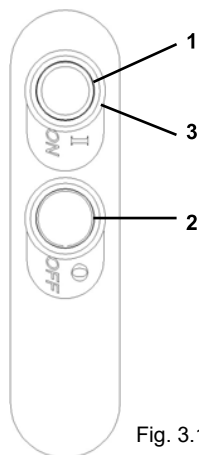

Fig. 3.1.1
Press the run button ("1", Fig. 3.1.1).
5.3 - Verification of the efficiency of the emergency stop button (Fig. 3.1.1)
5.4 - Machine start-up (Fig. 3.1.1)
To start the machine, plug it into the power outlet then press the start button ("1" Fig. 3.1.1).
5.5 - Machine stop (Fig. 3.1.1)
To stop the machine, simply press the stop button ("2" Fig. 3.1.1).